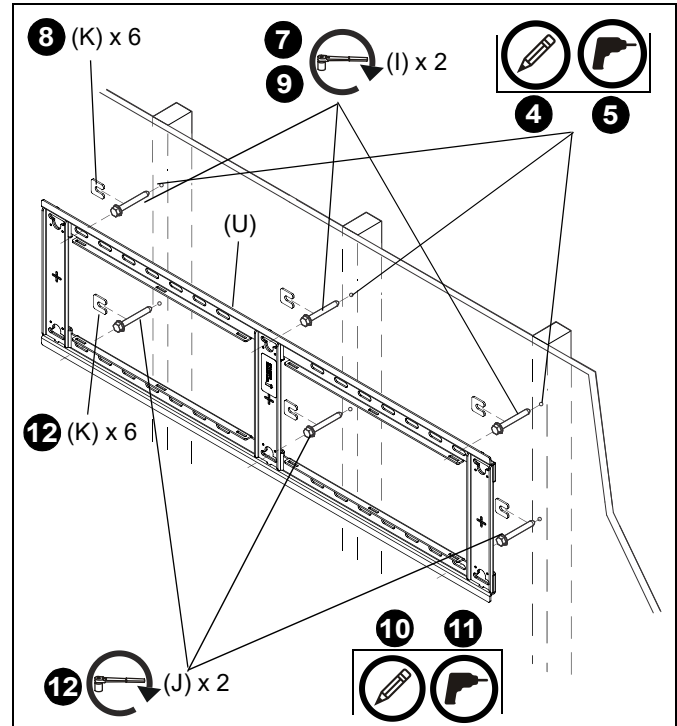

Figure 2
4. Using a level, mark the wall on each stud to attach the mount through the upper mounting slots. (See Figure 2)
6. Partially install two 5/16 x 2-1/2" flanged lag bolts (I) into
7. Hang mount (U), aligning upper mounting slots over lag bolts and adjust side-to-side for proper location.
8. Place one slotted washer (K) over each flanged lag bolt. (See Figure 2)
9. Tighten lag bolts to secure mount (U) to wall at upper mounting slots.
10. Mark the attachment points for the lower mounting slots, making sure the attachment points are located on the studs. (See Figure 2)
11. Drill 7/32" (5.5mm) pilot holes at markings for lower mounting holes. (See Figure 2)
12. Use three 5/16 x 2-1/2" flanged lag bolts (I) and three 5/16" slotted washers (K) to attach the mount to the wall through the lower mounting holes. (See Figure 2)
13. Slide mount (U) to approximate center of screen location.
3. Mark location of six mounting holes on wall.(See Figure 2)